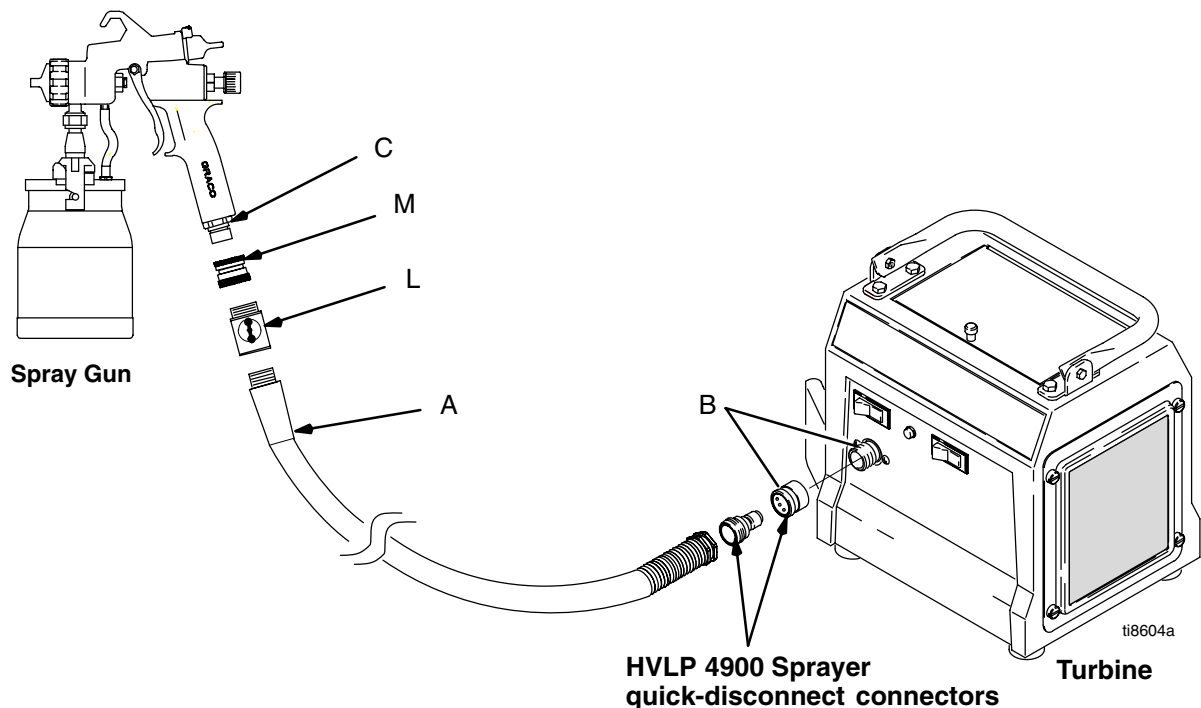

Fig. 3
1. Fig. 3. Connect quick-disconnect (M) to air supply hose (A).
2. Connect quick-disconnect to gun air inlet (C).
3. Connect other end of air supply hose to turbine outlet (B).
1. Fig. 3. Connect air valve (L) to quick-disconnect (M).
2. Connect air valve to air supply hose (A).
3. Connect quick-disconnect to gun air inlet (C).
4. Connect other end of air supply hose to turbine outlet or quick-disconnect (B).